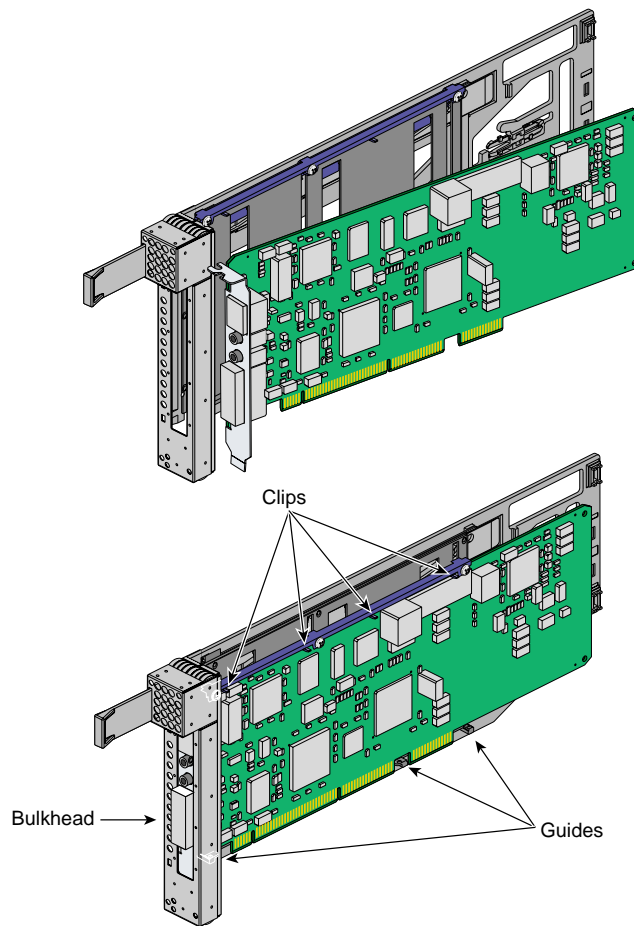

Figure 12-4 Mounting Card in Carrier
- c. Mount the card in the carrier, as shown in Figure 12-4, so that the following occurs: